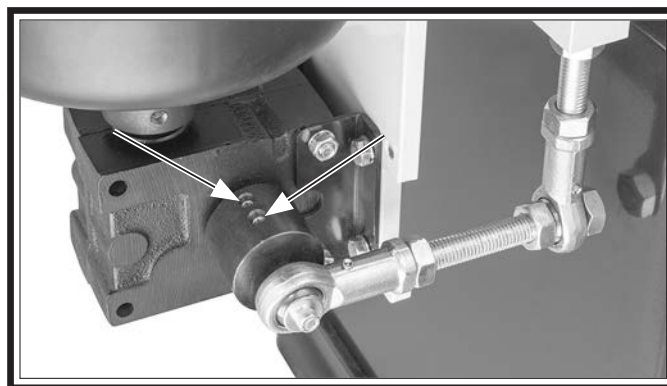

Figure 78. Location of eccentric gear set screws.
7. Check set screws on eccentric gear and tighten if loose (see **Figure 78**).